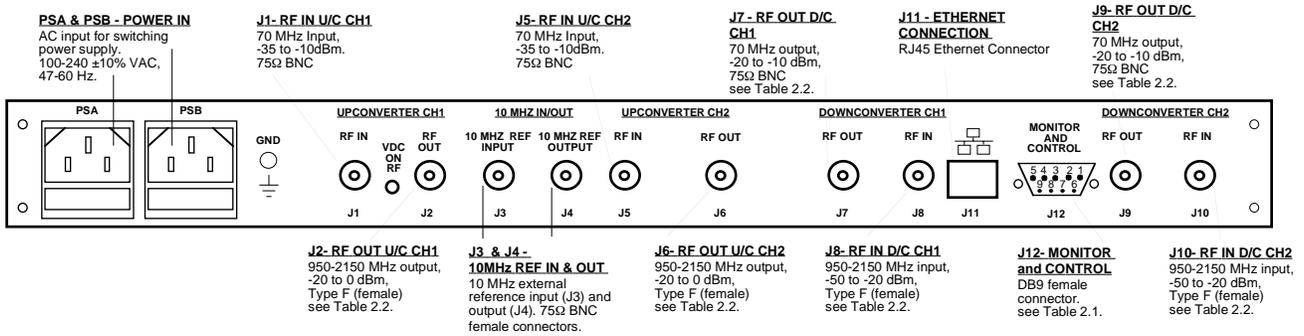

FIGURE 2.2 2417-422 Rear Panel I/Os
Figure 2.2 shows the input and output connectors on the rear panel.
1. Connect a -35 dBm to -10 dBm signal to IF IN, for the designated channel (ie: J1, J5), (Figure 2.2).
2. Connect the RF OUT, for the designated channel (ie: J2, J6), to the external equipment, (Figure 2.2).